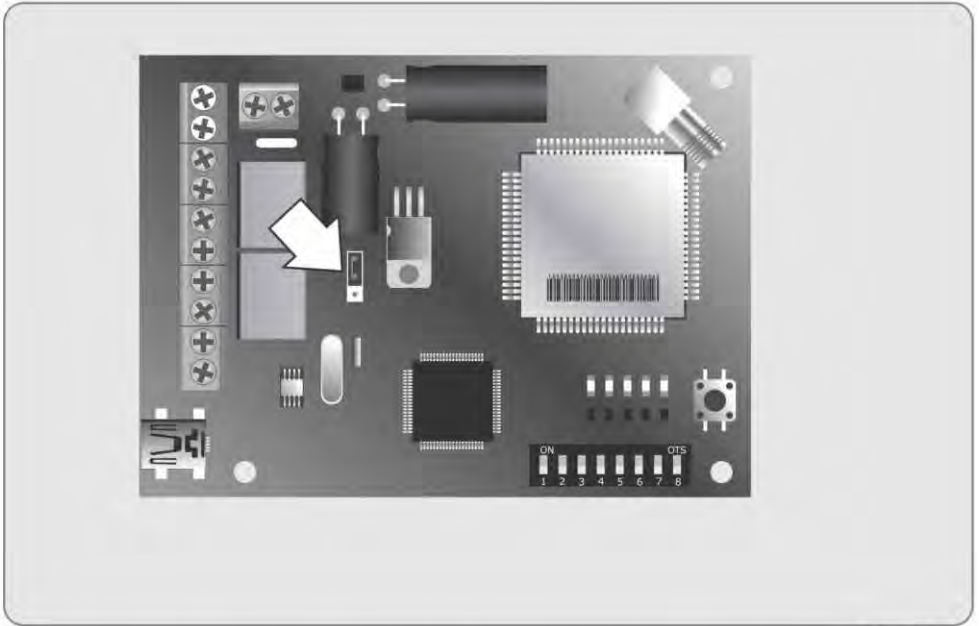

FIGURE 67.
6. The device will automatically install drivers, and the following pop-up in Figure 67 should appear: